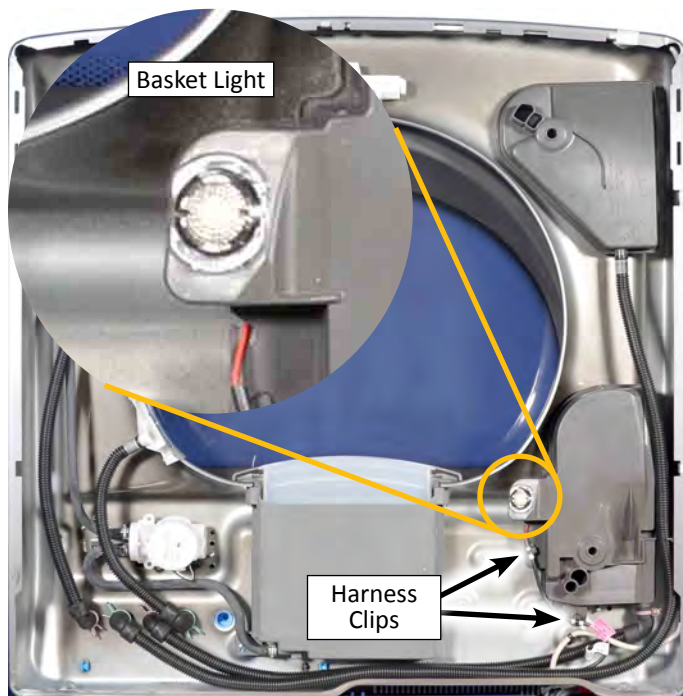

Figure 2
7. Locate the Basket Light under the top panel. The light is located next to the Bleach/Oxi Dispenser. Pull out the two harness retaining clips as shown in Figure 2.